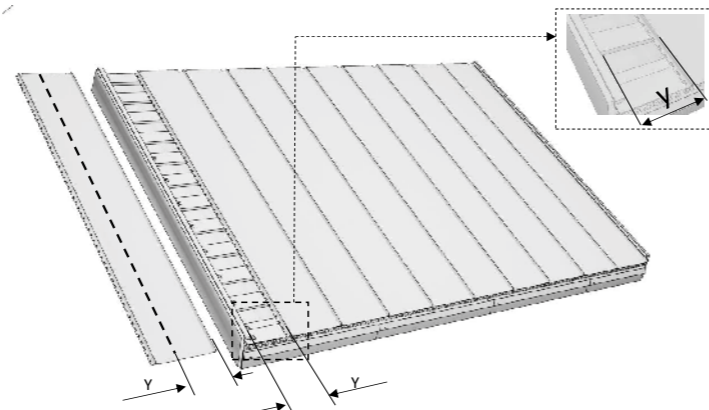

Fig. 11b
- An equally common finishing of the slope is to cut only the last panel from the barge side (Fig. 11b).